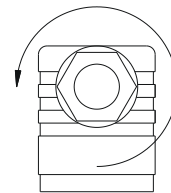

Fig. 7
- ⚡ Loosen the screwed cable gland ⑤ M16x1,5 (⇒ Fig. 7).